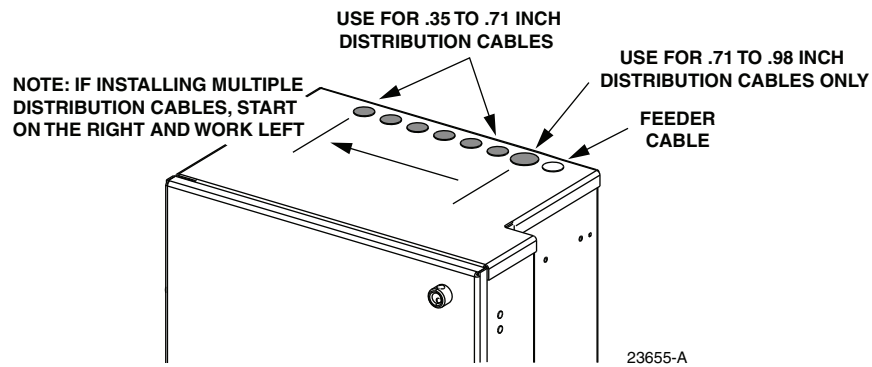

Figure 45. Cable Entry/Exit Holes
1. Locate the next available distribution cable entry/exit hole on top of the cabinet as shown in Figure 45.